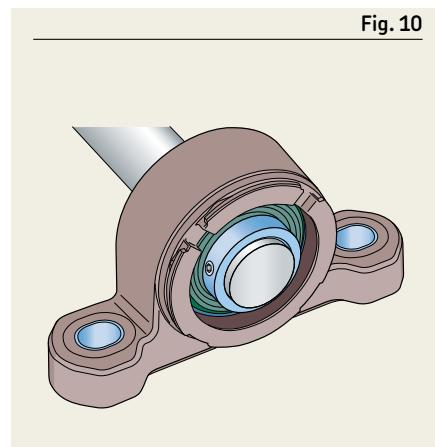

Fig. 10
- 2 Slide the SKF Food Line ball bearing unit onto the shaft with grub screws facing outwards and ensure the shaft is correctly positioned (**fig. 10**).